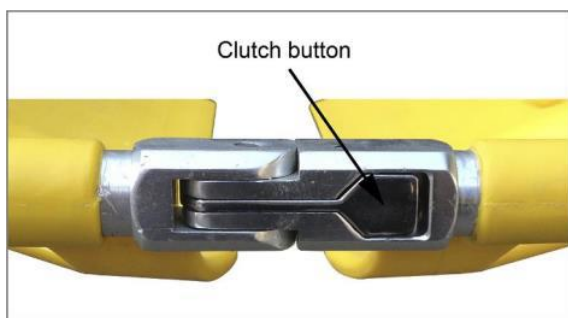
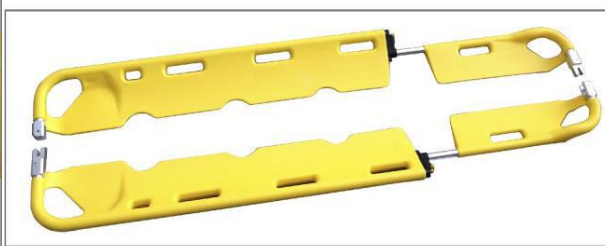

Figure 5
Figure 6
2. Press the clutch button at both ends of the stretcher, so that the stretcher can be separated into two parts. (Figure 5, Figure 6)